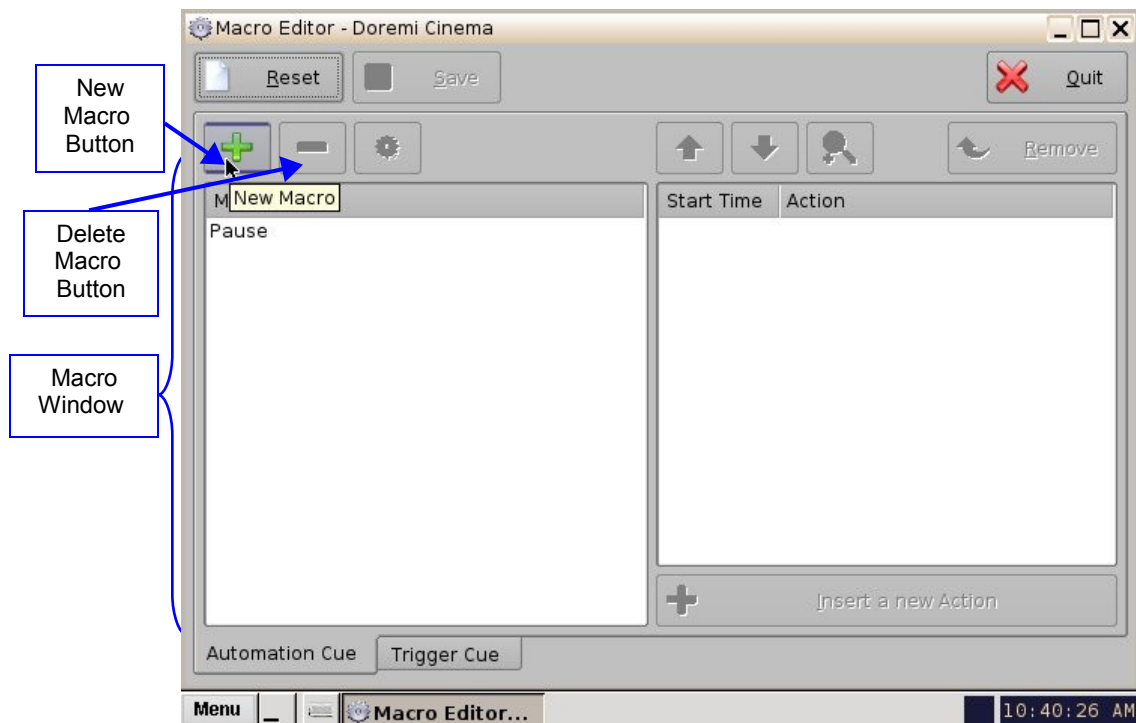

Figure 177: Macro Editor Window
- The Macro Editor GUI will appear (Figure 177).